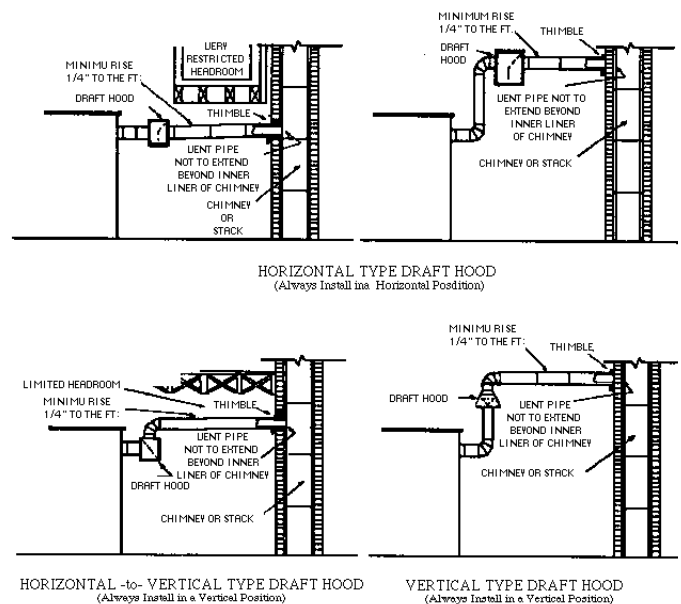

FIGURE 3 Recommended Locations for Draft Hoods
□ A draft hood or a barometric draft regulator shall be installed in the same room or enclosure as the equipment ins such a manner as to prevent any difference in the pressure between the hood or regulator and the combustion air supply (see Figures 3 and 4). In no case shall the relief opening of the draft hood or barometric draft regulator be located at a point lower than the top of the highest flue passage in the equipment.
Figure 3 and 4 : Copyright by the American Gas Association. Used by permission of the copyright holder.